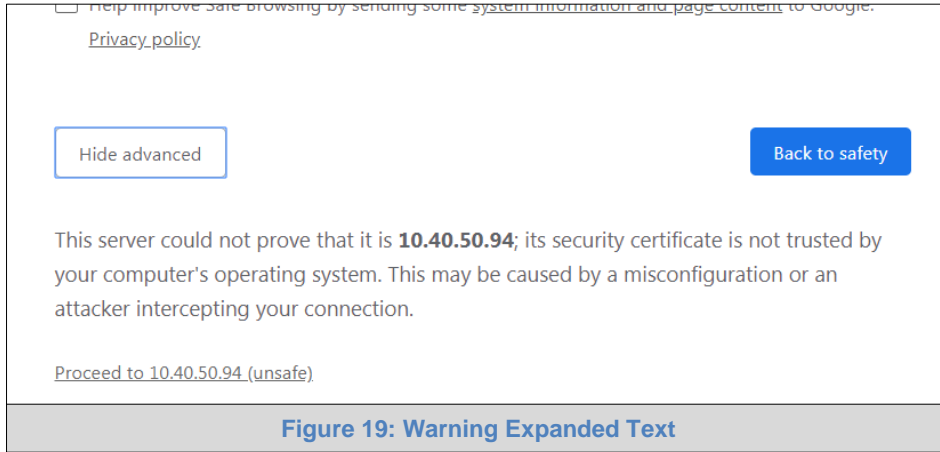

Figure 19: Warning Expanded Text
- Additional text will expand below the warning, click the underlined text to go to the IP Address. In the **Figure 19** example this text is “Proceed to 10.40.50.94 \(unsafe\)”.